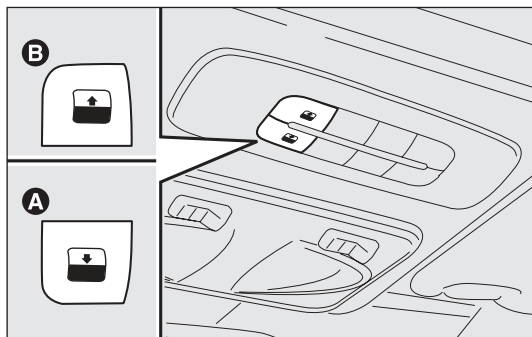

fig. 76
The sunroof can be operated only with the ignition key turned to MAR. Controls A-B fig. 76, located on a dedicated control panel near the front ceiling light, open and close the sunroof.
Press and hold button B-fig. 76, and the front pane will set to the “spoiler” position; press button B again for over half a second to make the sunroof slide automatically to the wide open position; press the button once more to stop the sunroof at an intermediate position.
From the wide open position, press button A-fig. 76 for over half a second to set the front pane to the “spoiler” position; press the button again to stop the sunroof at an intermediate position; press button A once more and hold it down to close the sunroof completely.
- ☐ press button A-fig. 76 at close position;